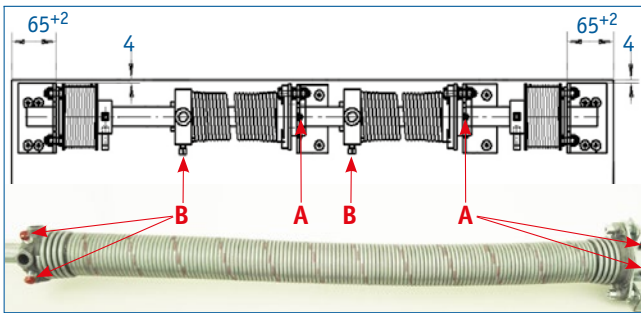

Fig. 2.2.2
- To **install the spring shaft** (Fig. 2.2.2) first rivet the outer brackets (MD150041) rightangled or parallel to the rear frame. The right-angled or parallel arrangement is necessary because otherwise the roller shutter will run sluggishly.
**Tip:** The spring tension is also indicated by the spiral red markings (Fig.2.2.2). The spring tension increases with the number of turns you see. Many markings mean a high spring tension. If you receive an untensioned spring, you can draw a horizontal line across the entire spring with white chalk to read off the number of turns. Alternatively, you can divide the height of the roller door leaf by 250 mm and add 3 turns. **Example:** Door height 2,125 mm:  $250 \text{ mm} = 8.5 + 3 = 11.5$  i.e. 12 revolutions. The spring force should be set the same for both springs (indicative value 11-12 visible spirals) to ensure optimal load sharing.